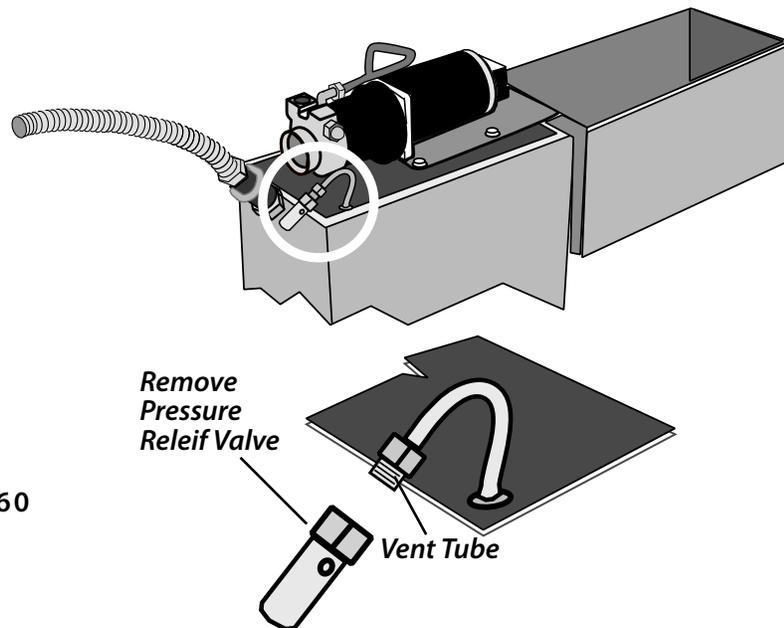

FIGURE 60
3. Remove the Pressure Relief Valve (**Figure 60**) and the Brass Cap on the Fill Tube from the Heat Exchanger.